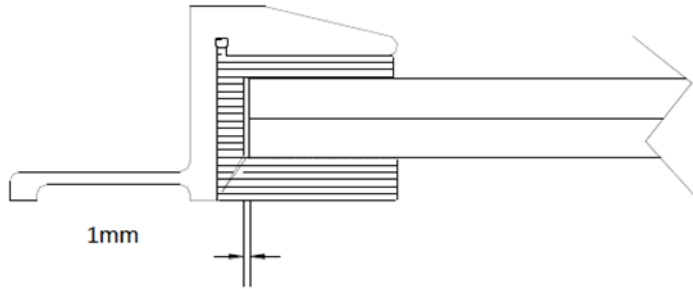

Figure3. 1mm from the vertical edge of a stationary clip
3. The clamps and the supporting guide rail fixation system shall adopt a combined design method, and the gap between the vertical edge and the module shall be kept at 1mm to adapt to the thermal expansion in the long and wide direction of the module glass. See figure 3.